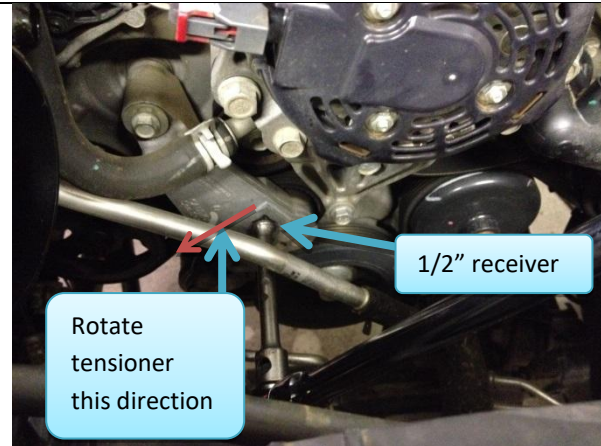

Figure 27: Serpentine belt tensioner and alternator.
16.1.2. Pull breaker bar to the passenger side (when underneath) to reduce tension on the belt (Figure 27)